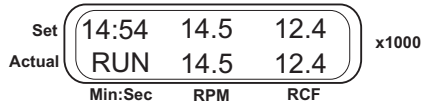

Fig.3 Control panel in run mode
- 4.9. Press **Run Stop** key (fig. 1/Ⓣ) to start centrifugation. Blinking indication RUN and current speed is displayed in the lower line (fig.3). The timer in the upper line starts countdown after the set speed is achieved (stable indication RUN).